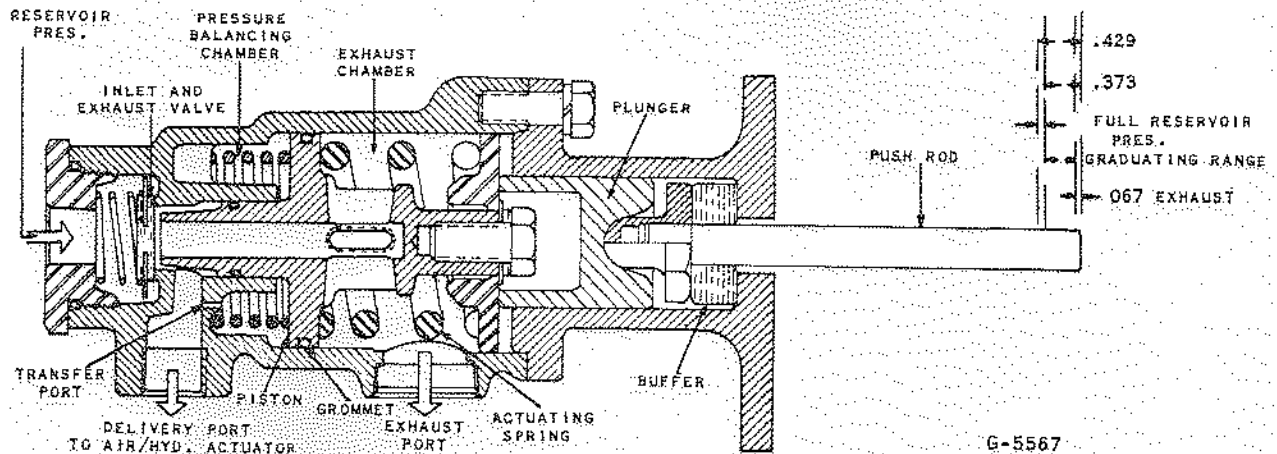
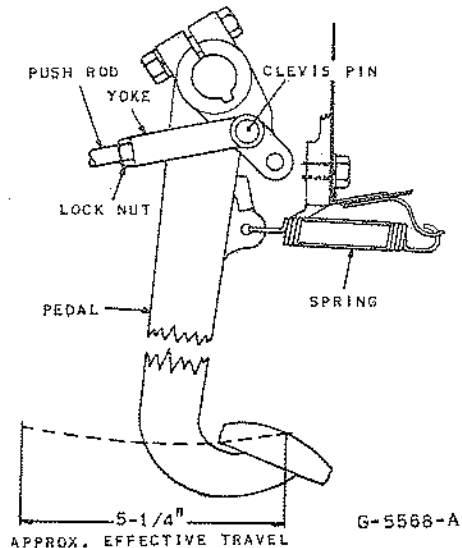

Fig. 6 - Brake Valve
Fig. 7 - Brake Pedal Adjustment
**Operation (Refer to Fig. 6)**
**Adjustment (Refer to Fig. 7)**
Pedal Adjustment is as follows (Refer to Fig. 7)
2. With the brake valve securely mounted in place, and the push rod (Fig. 6) held back against the buffer (Fig. 6) adjust the push rod yoke (Fig. 7) until the brake pedal pad is level with the clutch pedal pad.